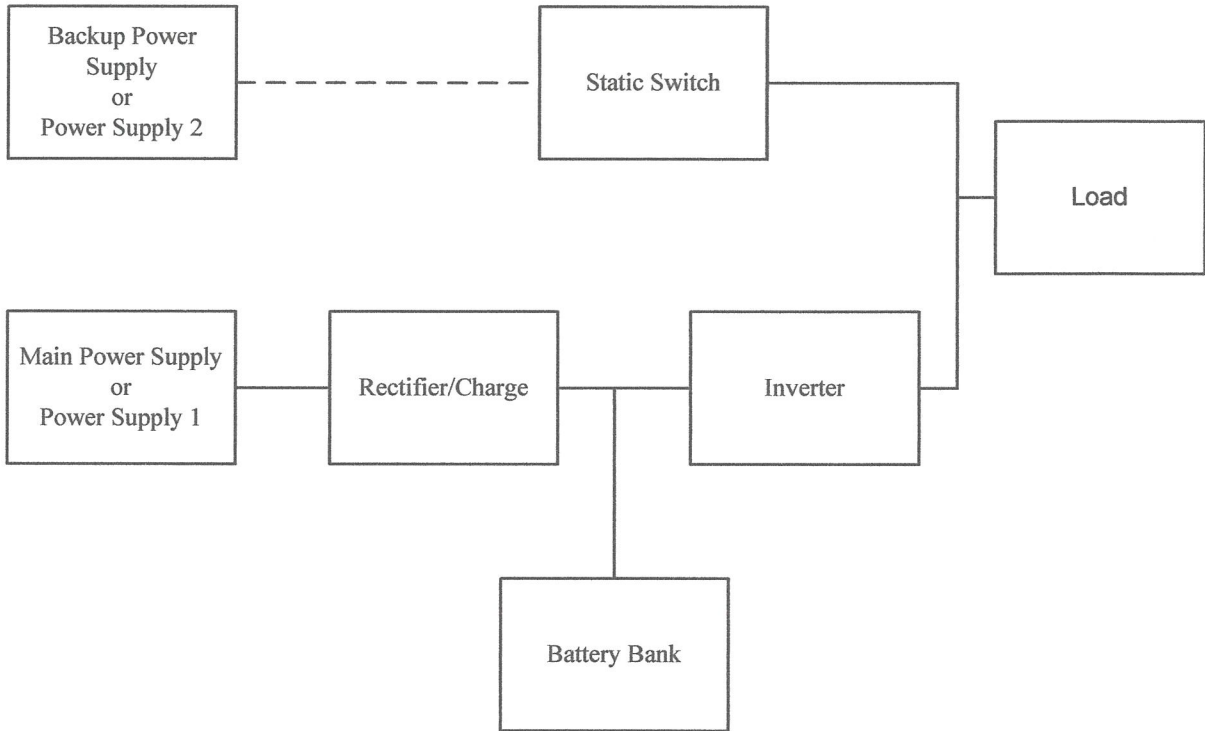

Figure Q2(c)
- Q2** (a) Name **TWO (2)** types of batteries typically used in industrial plant. (2 marks)
- (c) The critical loads for an industrial packaging plant that to be supplied by Uninterruptible Power Supplies (UPS) during power outage period is given in **Table Q2(c)(i)**. The block diagram of the proposed UPS and its main configurations is shown in **Figure Q2(c)**. The characteristics of the proposed UPS is given in **Table Q2(c)(ii)**.
- Q3** (a) Summarise **THREE (3)** technical benefits gained by industry with proper load monitoring system in place. (3 marks)